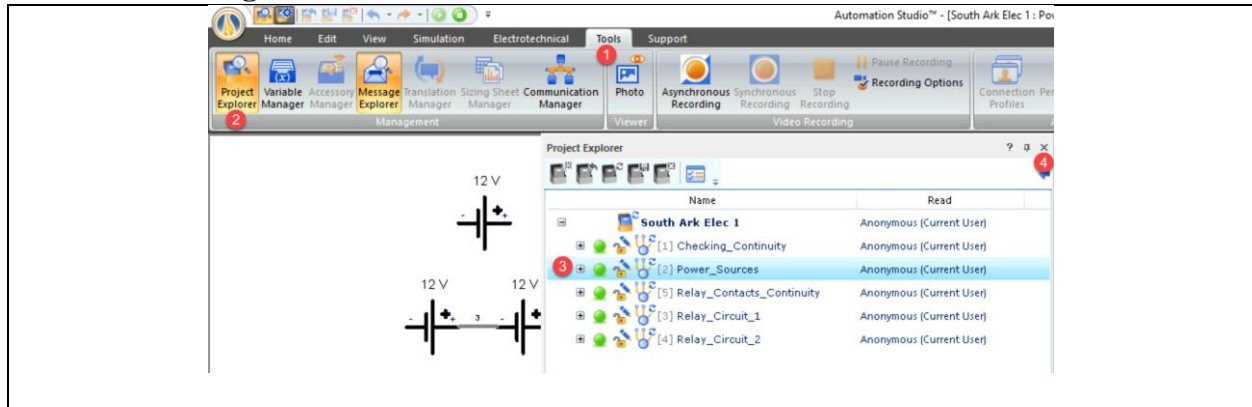

Figure 8. Moving to the Power Sources document.
1. Navigate to the Power_Sources document in the project as shown in Figure 8.